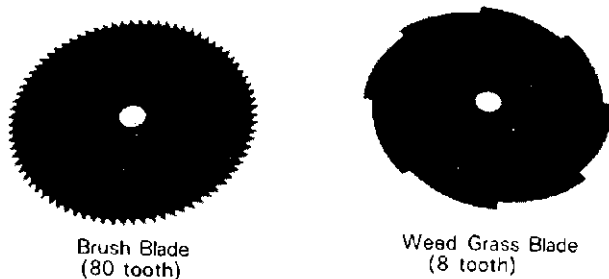

Fig. 11
1. The installation of the 8 tooth weed/grass blade and the 80 tooth brush blade is exactly the same. See Fig. 11